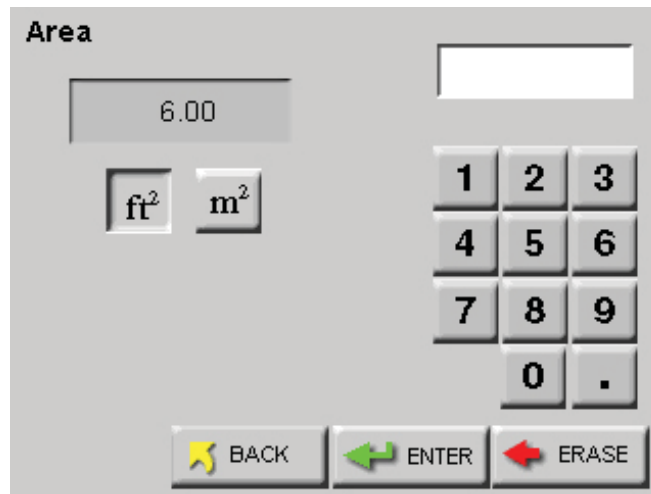

Figure 6-91 Reports Area Setup Screen
- Press the AREA button to display screen shown in Figure 6-91.